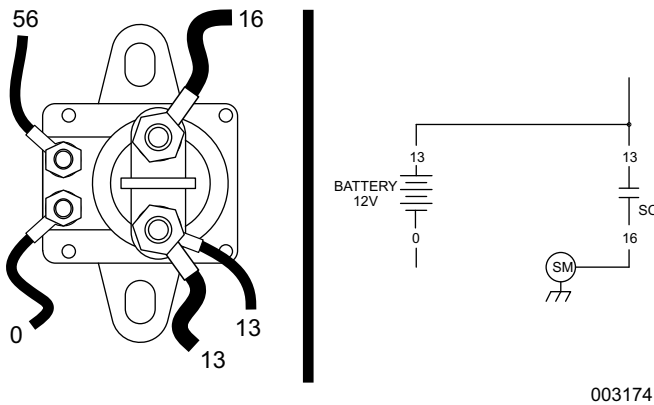

Figure 4-9. The Starter Contactor (Single Cylinder Units)
See **Figure 4-9**. The Starter Contactor (SC) is located in the engine compartment and is mounted against the firewall. The SC provides the electrical connection to safely engage the starter.